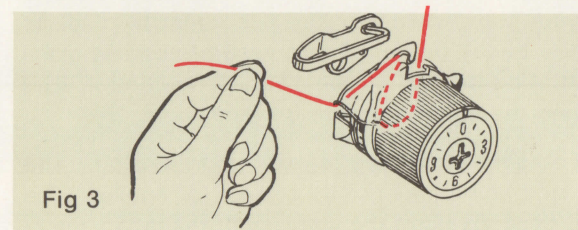

Fig 3
3. After the thread has slipped into the hook, allow the spring wire to return to position by releasing the thread spool. Fig. 3.